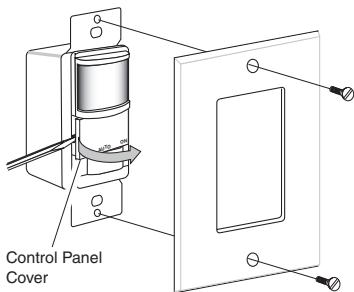

Figure 2 - Removing Control Panel Cover
2. Remove control panel cover by gently pressing in with screwdriver and prying cover off (see Figure 2).
1. Replace control panel cover and attach the decorative wall plate (see Figure 2). In installations where the motion sensor switch is combined with other switches or outlets on an expanded box, you will need to purchase a combination wall plate. Various combination wall plates are available at home centers and electrical supply stores.